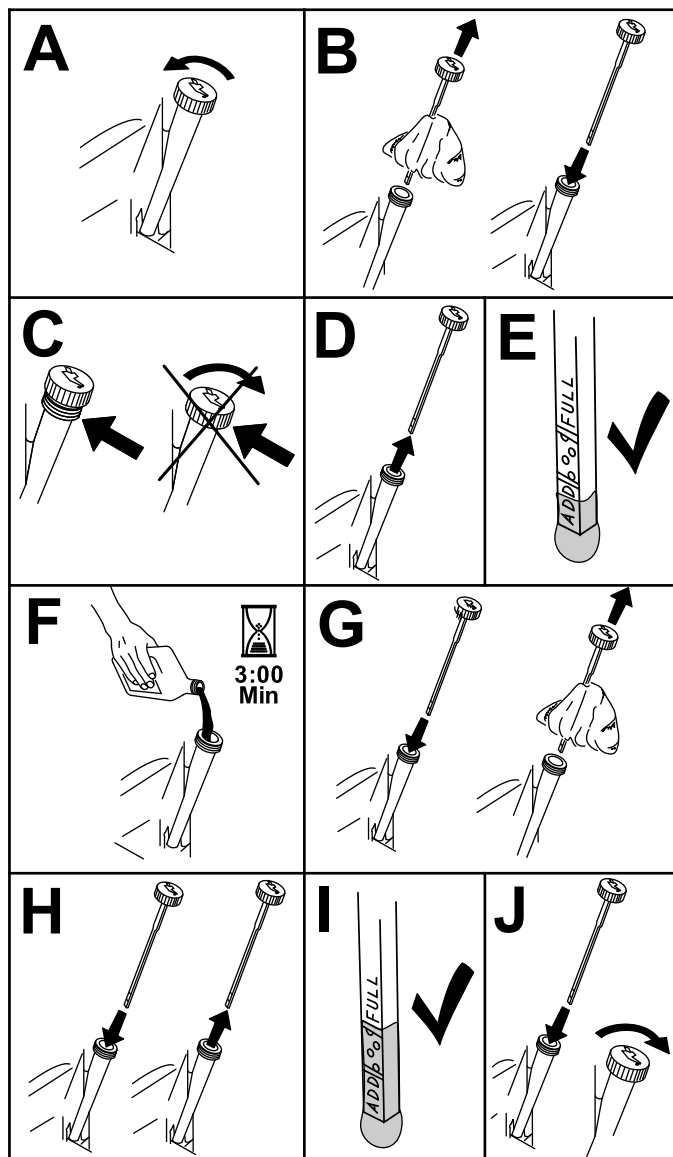

Figure 43
3. Check the engine-oil level as shown in (Figure 43).